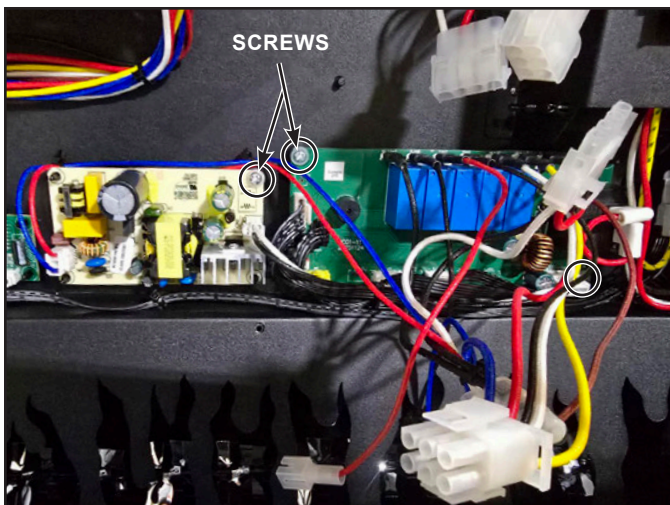

Figure 15 Control Boards (PCBs)
4. Locate the control boards (PCBs), both should be replaced. See Figure 15.
5. Unplug all quick connects that are connected to the PCBs, and cut any of the zip ties needed to remove the two (2) PCBs.
6. Remove screws securing the PCBs. See Figure 15.